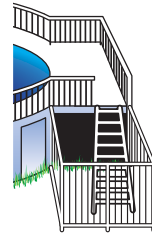

Figure 8c
- (b) **the ladder or steps should be surrounded by a barrier** (figure 8c). When the ladder or steps are secured, locked, or removed, any opening created should not allow the passage of a 4 inch diameter sphere.